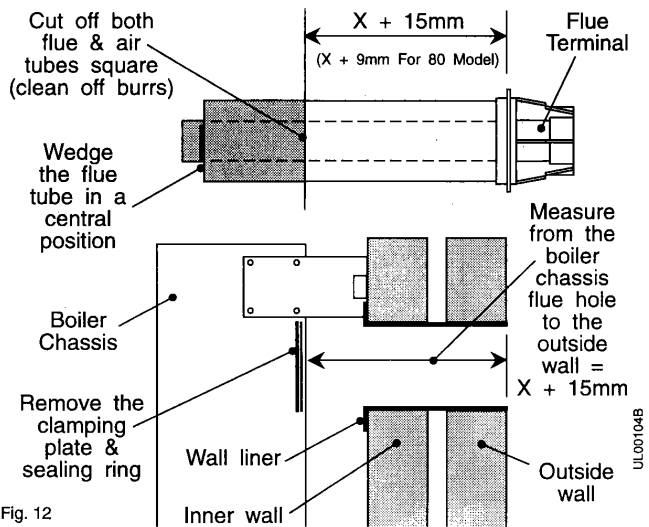

Fig. 12
9. Measure the wall thickness from the edge of the outer wall to the flue hole in the boiler chassis. Add 15mm (9mm for 80 model) and mark this distance on the flue from the terminal flange. See Fig. 12.